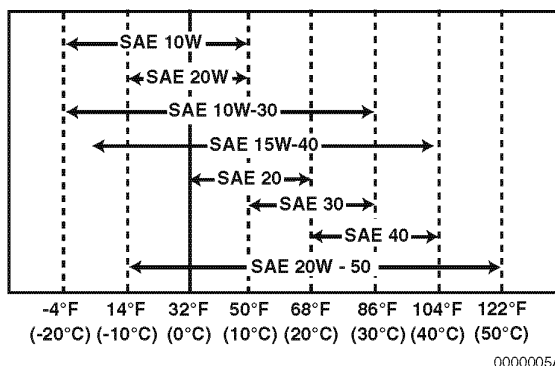

Figure 4-12
- Select the oil viscosity based on the ambient temperature where the engine is being operated. See the SAE Service Grade Viscosity Chart (**Figure 4-12**).
Select the appropriate engine oil viscosity based on the ambient temperature and use the SAE Service Grade Viscosity Chart in (**Figure 4-12**).